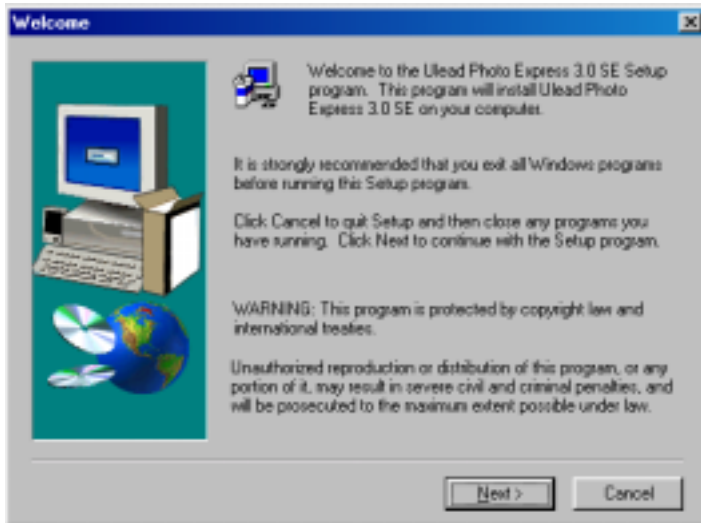

Figure 8: installation Ulead Photo Express 3.0 SE
5. Click on 'Next' to continue with the installation. See figure 8.